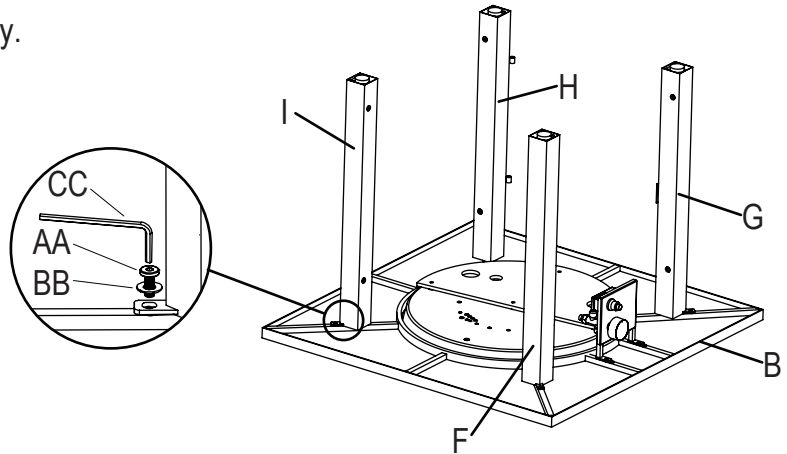

Figure 2
2. Attach back-left leg (H) and back-right leg (I) and front-left leg (G) and front-right leg (F) to table top assembly (A) with bolts (AA) and washer (BB) by using hex screw driver (CC), (see Figure 2).